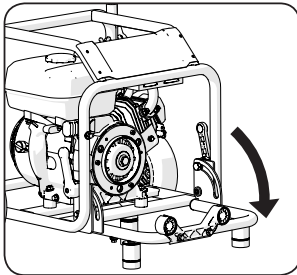

Fig 8
- Deploy the Accessory Mounting Frame. (**Fig. 8**)